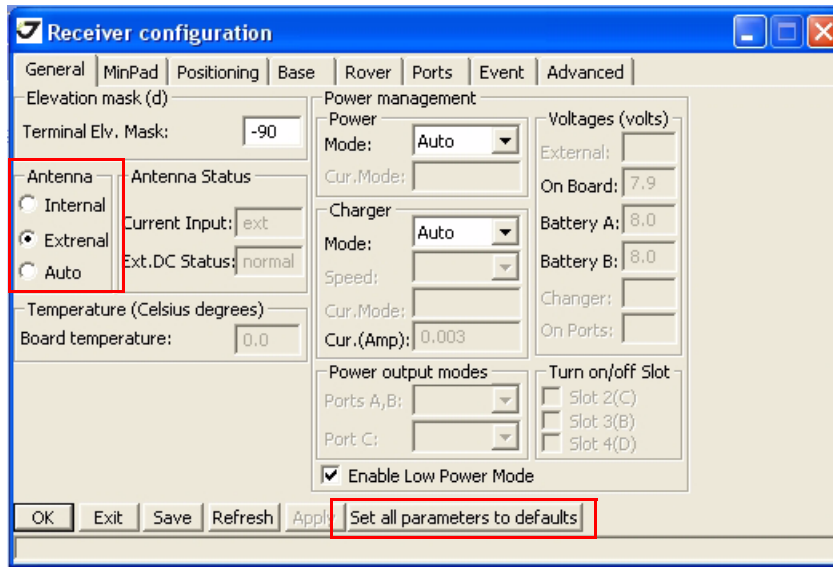

Figure 3-2. Set all parameters to defaults
- In the *General* tab click *Set all parameters to defaults* and set up the antenna parameter: *Auto*, *Internal* or *External*, when external antenna is used.(Figure 3-2).